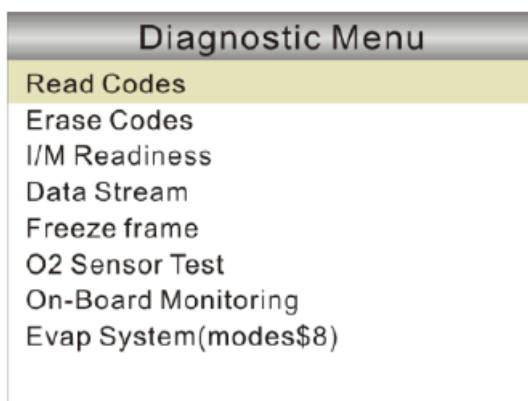

Figure 5-9
7. View a summary of system status (MIL status, DTC counts, Monitor status) on screen. Press [OK] ,a screen similar to Figure 5-9 will appear: